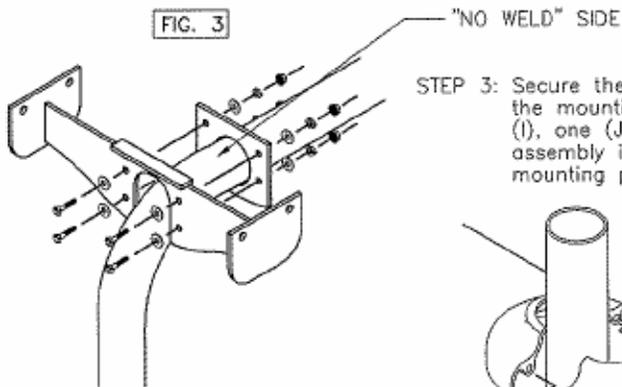

FIG. 3
STEP 3: Secure the spider leg seat assembly (C4) to the outside of the the mounting bracket on the spider leg (C-) using one (F), one (I), one (J) and two (H) per (F), see FIG. 3. NOTE: Be sure seat assembly is assembled to leg with "NO WELD" side against leg mounting plate.
STEP 2: Follow Steps 3 and 4, FIG. 3 & 4, on page 3 to finish the assembly of the 7' and 9' Spyder Tables.
STEP 3: Follow Steps 3 and 4, FIG. 3 & 4, on page 3 to finish the assembly of the 11' Spyder Table.